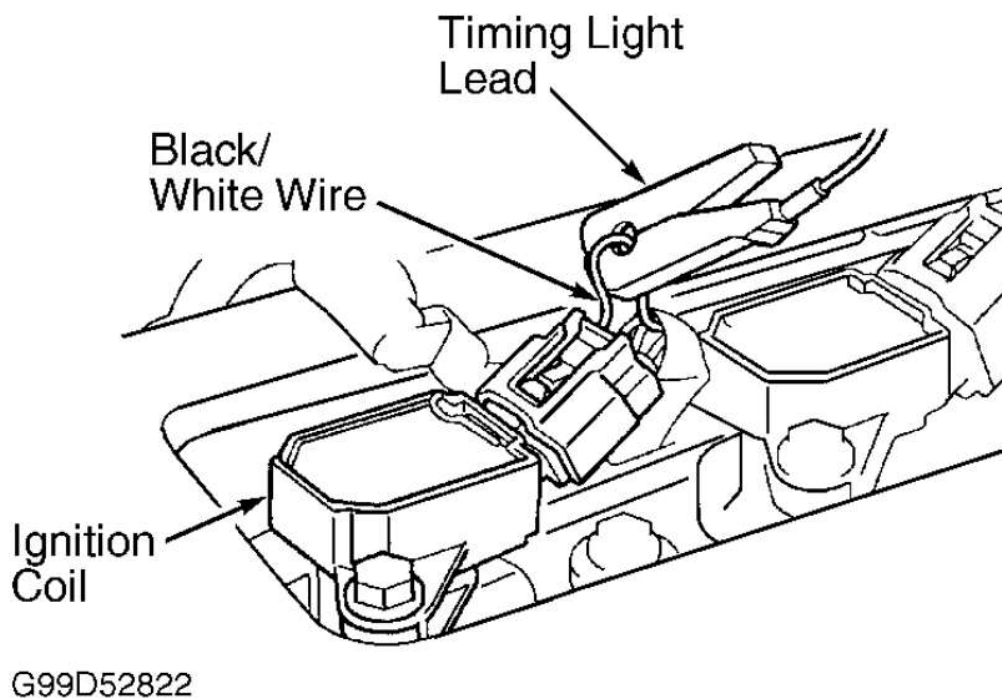

Fig. 36: Connecting Timing Light (Corolla)
2. Connect timing light lead to Black/White wire at ignition coil for cylinder No. 1. See **Fig. 36** . Cylinder No. 1 is front cylinder at timing chain end of engine.